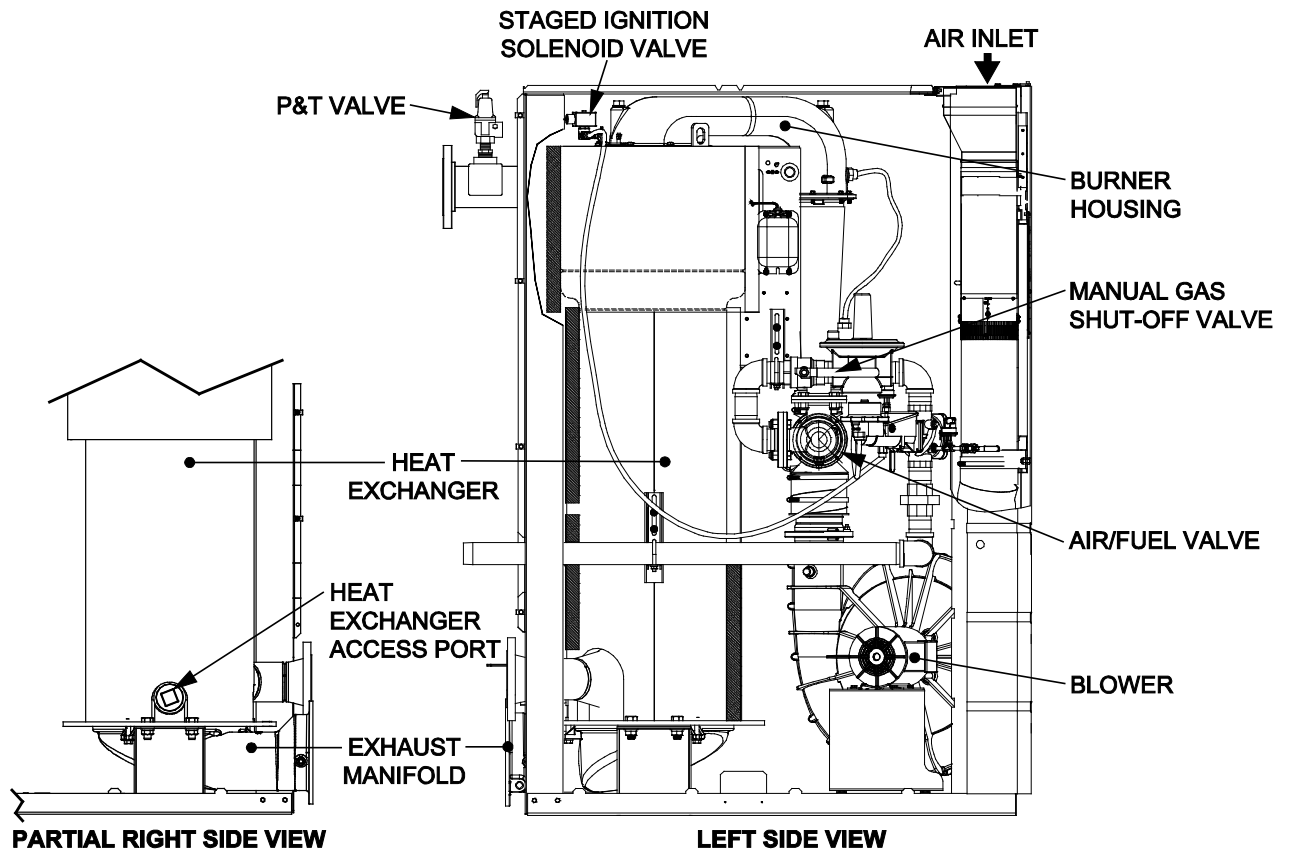

Figure 2: BMK 2.0LN (Venturi Design) - (Partial Right Side and Left Side Views)
Benchmark 2.0LN (Venturi Design) models contain a heat exchanger as shown in Figure 2. Perform the waterside inspection as follows:
4. Open the P&T relief valve (Figure 2) to allow air to enter the heat exchanger during draining.
5. After the heat exchanger has been drained, remove the 2-1/2 inch access port plug on the right side of the heat exchanger as shown in Figure 2.